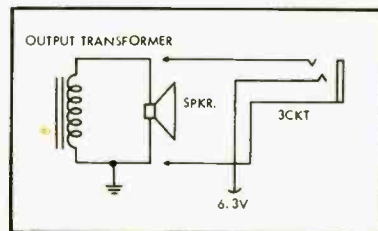
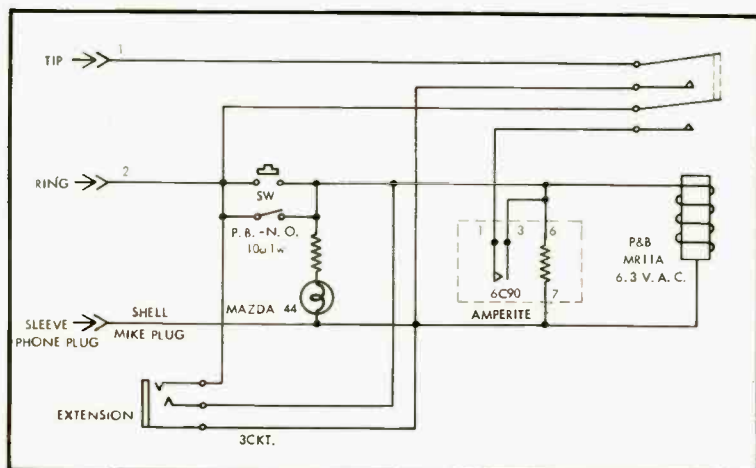
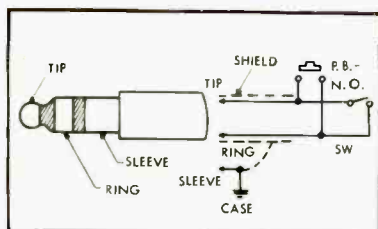
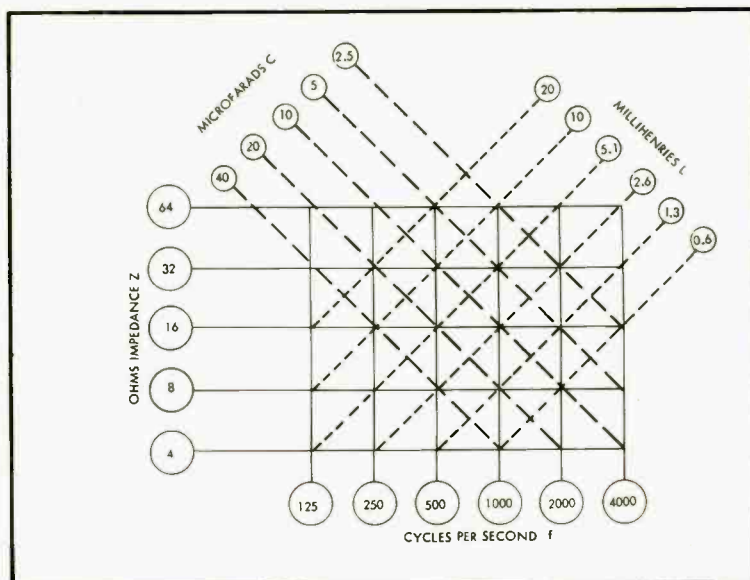

Fig. 2. Receiver connections for time-delay suppressor.
Fig. 1. Schematic of time-delay commercial suppressor.
Fig. 3. Schematic of extension control.
Fig. 1. Chart for determination of L and C for crossover networks when impedance L and frequency of crossover f are known.
Some study of the nature of commercials, made with a radio receiver, a stopwatch, and some blood-pressure medicine, shows that the length of the commercial at most stations is fairly constant, and seldom exceeds 80 seconds. Thus, a device which will shut off the audio output of the receiver for 80 seconds plus a margin of safety, will eliminate the major part of most commercials. Such a device is easily made from a self-holding relay, a push button, and a time-delay unit, necessary power being supplied by the receiver. The circuit of such a time-delay commercial suppressor is shown in Fig. 1 and the method of connecting this device to the receiver is shown in Fig. 2.
number of extensions may be used, and extension lead length may be as much as 50 feet, if desired. The circuit of the extension is shown in Fig. 3. Shielded cable may be necessary from the extension to the main control box if high sensitivity a. f. equipment is used in its vicinity.
connection, on the rear, Fig. 5, is an Amphenol three-terminal mike fitting, terminal 3 being connected to the shell. The other end of the connecting cord, which is a two-wire shielded microphone cable, terminates in a three-circuit plug (Switchcraft #267), which engages the receiver jack (Fig. 2). The front jack, for the extension, is a narrow-gauge type (Switchcraft JJ-033) to engage a like three-circuit plug (Switchcraft PJ-068). The use of unlike connectors here is intentional, as components are not interchangeable.
Fig. 2. Amplitude compensation circuit. e is open-circuit output voltage of generator supplying signal to compensation circuit. r is internal series resistance of generator output. C_1 is bass pre-emphasis compensation capacitor. C_2 is crossover control capacitor. R_1 and R_2 provide treble boost.
Figure 2 shows a schematic of a circuit which will provide correct compensation for an amplitude sensitive pickup. In this circuit, e represents the audio output signal of the pickup, or a subsequent amplifier stage. With a capacitance pickup e comes from the associated oscillator-converter, or a subsequent stage; r represents the internal resistance in series with e . For the Weathers oscillator-converter r is about 45,000 ohms. C_1 in connection with the resistance $(r + R_1 + R_2)$ provides 6-db-per-octave compensation for bass pre-emphasis. The maximum treble boost ratio G is equal to $(r + R_1 + R_2) / (r + R_1)$, from which it follows that $R_2 / (r + R_1)$ is equal to $(G - 1)$. Values of this parameter for the important record-
f_m = Frequency at which treble boost is half maximum. F = Time constant for bass pre-emphasis compensation. $K = (r + R_1) / R_2$. $Z = \sqrt{(15 + 4K)(1 + 4K)}$. For r , R_1 , R_2 , C_1 , and C_2 , see Fig. 2.
A suggested compensator circuit is shown in Fig 3. In this circuit S_1 controls the bass pre-emphasis compensation. S_2 and S_3 together control the
Fig. 2 (left). Two-way crossovers with a slope of 6 db per octave. $X_c = X_L = Z_w = Z_T$ at crossover frequency. C_1 and L_1 are found from Fig. 1. Fig. 3 (right). Two-way crossovers with a slope of 12 db per octave. Find C and L from Fig. 1. $C_2 = 1.41 C$; $L_2 = 0.71 L$; $C_3 = 0.71 C$; $L_3 = 1.41 L$.
for the parallel circuit of (B) in Fig. 3, making sure to connect the proper speakers on the respective output taps. This method is restricted to parallel crossover circuits, such as those in (B) of both Fig. 2 and Fig. 3, when using the usual 3-terminal output transformer secondary.
cut in. The *L₄* for the woofer has a reactance of 16 ohms at 500 cps, and Fig. 1 shows 5.1 mh. For the tweeter, *C₅* has 16-ohms at 4000 cps and Fig. 1 shows 2.5 μ f. For the mid-range, where *C₄* has half the reactance shown by Fig. 1, at 500 cps for the 16-ohm *M* we want 8 ohms for *C₄* or 40 μ f. The coil *L₅* at 500 cps has half the value of 16 ohms, and at 8 ohms on Fig. 1 we find 2.6 mh for *L₅*.